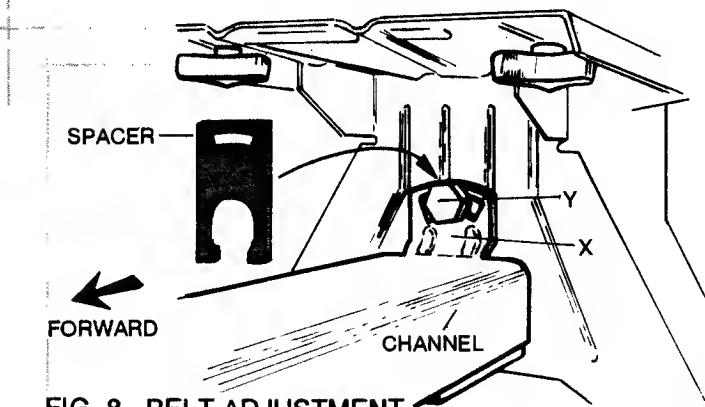
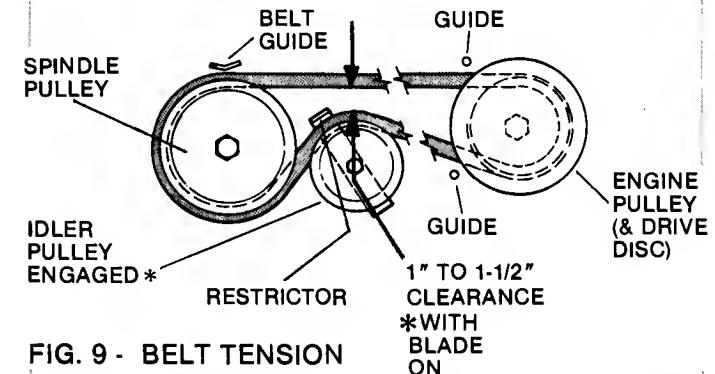

FIG. 8 - BELT ADJUSTMENT
FIG. 9 - BELT TENSION
With the mower deck in the #5 height position and the blade in the ON position, check the distance between the inside surfaces of the belt as shown in FIG. 9. The belt tension is adjusted by changing the "distance" between the front axle and the rear case. Remove the shoulder bolt (Y) (with the two metal spacers) from the main channel tab (X) and pull the front assembly FORWARD, increasing the belt tension until the correct amount is achieved. Then remove one or more spacers (as needed) from the hardware bag and align the spacer(s) behind main channel tab (X) and over the tube below it. Insert the shoulder bolt (without the two metal spacers) through the matching holes in spacer(s) and tab (X), and screw it into the front of the rear case - securely tighten! Refer to FIG. 8.
If the belt becomes frayed, cracked, or worn, replace it as follows: Remove the BELT COVER, then cut and remove the old belt. To install a new belt, close the fuel cap (10-C) valve. Stand the mower on the REAR BUMPER (14-C), shift into NEUTRAL, and work the belt between discs, then shift into #5 speed and push belt over edge of engine drive disc. Work belt into the groove of the drive disc, then position other end in pulleys on mower deck as follows: Loosen or remove the idler pulley, loop the belt around spindle pulley as shown in FIG. 9 and work belt between restrictor and idler pulley. Make sure locking tab on restrictor is engaged in idler arm before securing idler arm nut and bolt. Be sure the belt is inside all belt guides. Check and adjust belt tension as needed before reinstalling the BELT COVER.